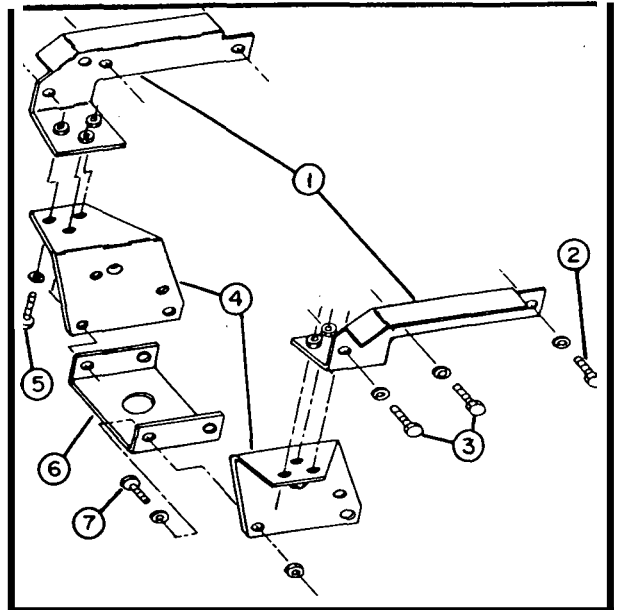

FIGURE 5
- a) Loosely attach the front support brackets (fig.5, item 1) to the tractor frame. For each bracket, use one 10mm x 1.25 x 25mm bolt (fig.5, item 2) with lockwasher, and two 10mm x 1.25 x 30mm bolts (fig.5, item.3) with lockwashers for each bracket. Do not tighten yet.
- b) Loosely attach the attaching plates (fig.5, item 4) to the front support brackets (fig.5, item 1). Use three 3/8" x 1" bolts (fig.5, item 5) with lockwashers for each plates. Do not tighten yet.
- c) Loosely install the reinforcement plate (fig.5, item 6) between the two attaching plates (fig.5, item 4). Use two 5/16" x 3/4" bolts (fig.5, item 7), lockwashers and nuts **IN THE FRONT HOLES ONLY**. Install the bolts heads and lockwashers from the inside with the nut on the outside as shown. Do not tighten yet.
- e) Securely tighten the 5/16 x 1/4" bolts (fig.5, item 7). Refer to the torque specification table on page 11.
- h) Tighten the 10mm bolts (fig.5, items 2 & 3) that attach the front support brackets to the tractor frame, and then tighten the three 3/8" bolts (fig.5, item 5) that attach the attaching plates to the support brackets. Refer to the torque specification chart on page 11.
- f) Carefully remove the front support brackets (fig.5, item 1) from the tractor frame, and then remove the male hitch assembly from the tractor.